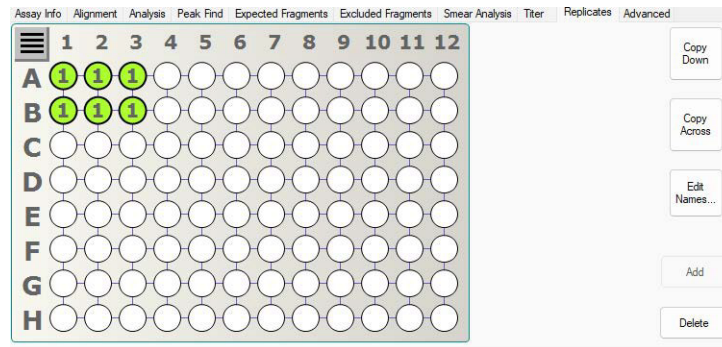

Figure 32. Replicate Set Added
- Click the **Add** button to create a replicate set. Each of the selected wells is marked with the same number to indicate that the wells contain the same sample as shown in Figure 32.